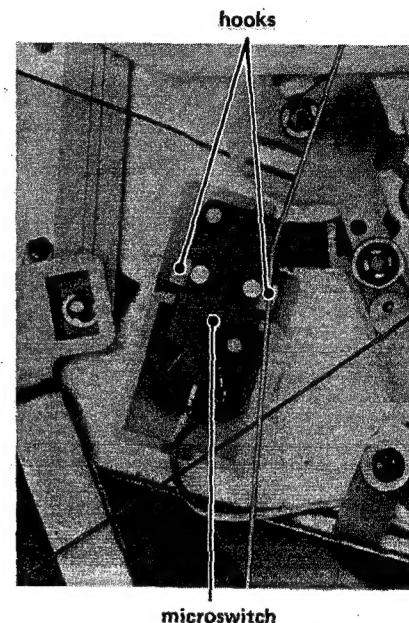

Fig. 3-6
2. The microswitch can be removed by expanding the corresponding hooks. (refer to Fig. 3-6).